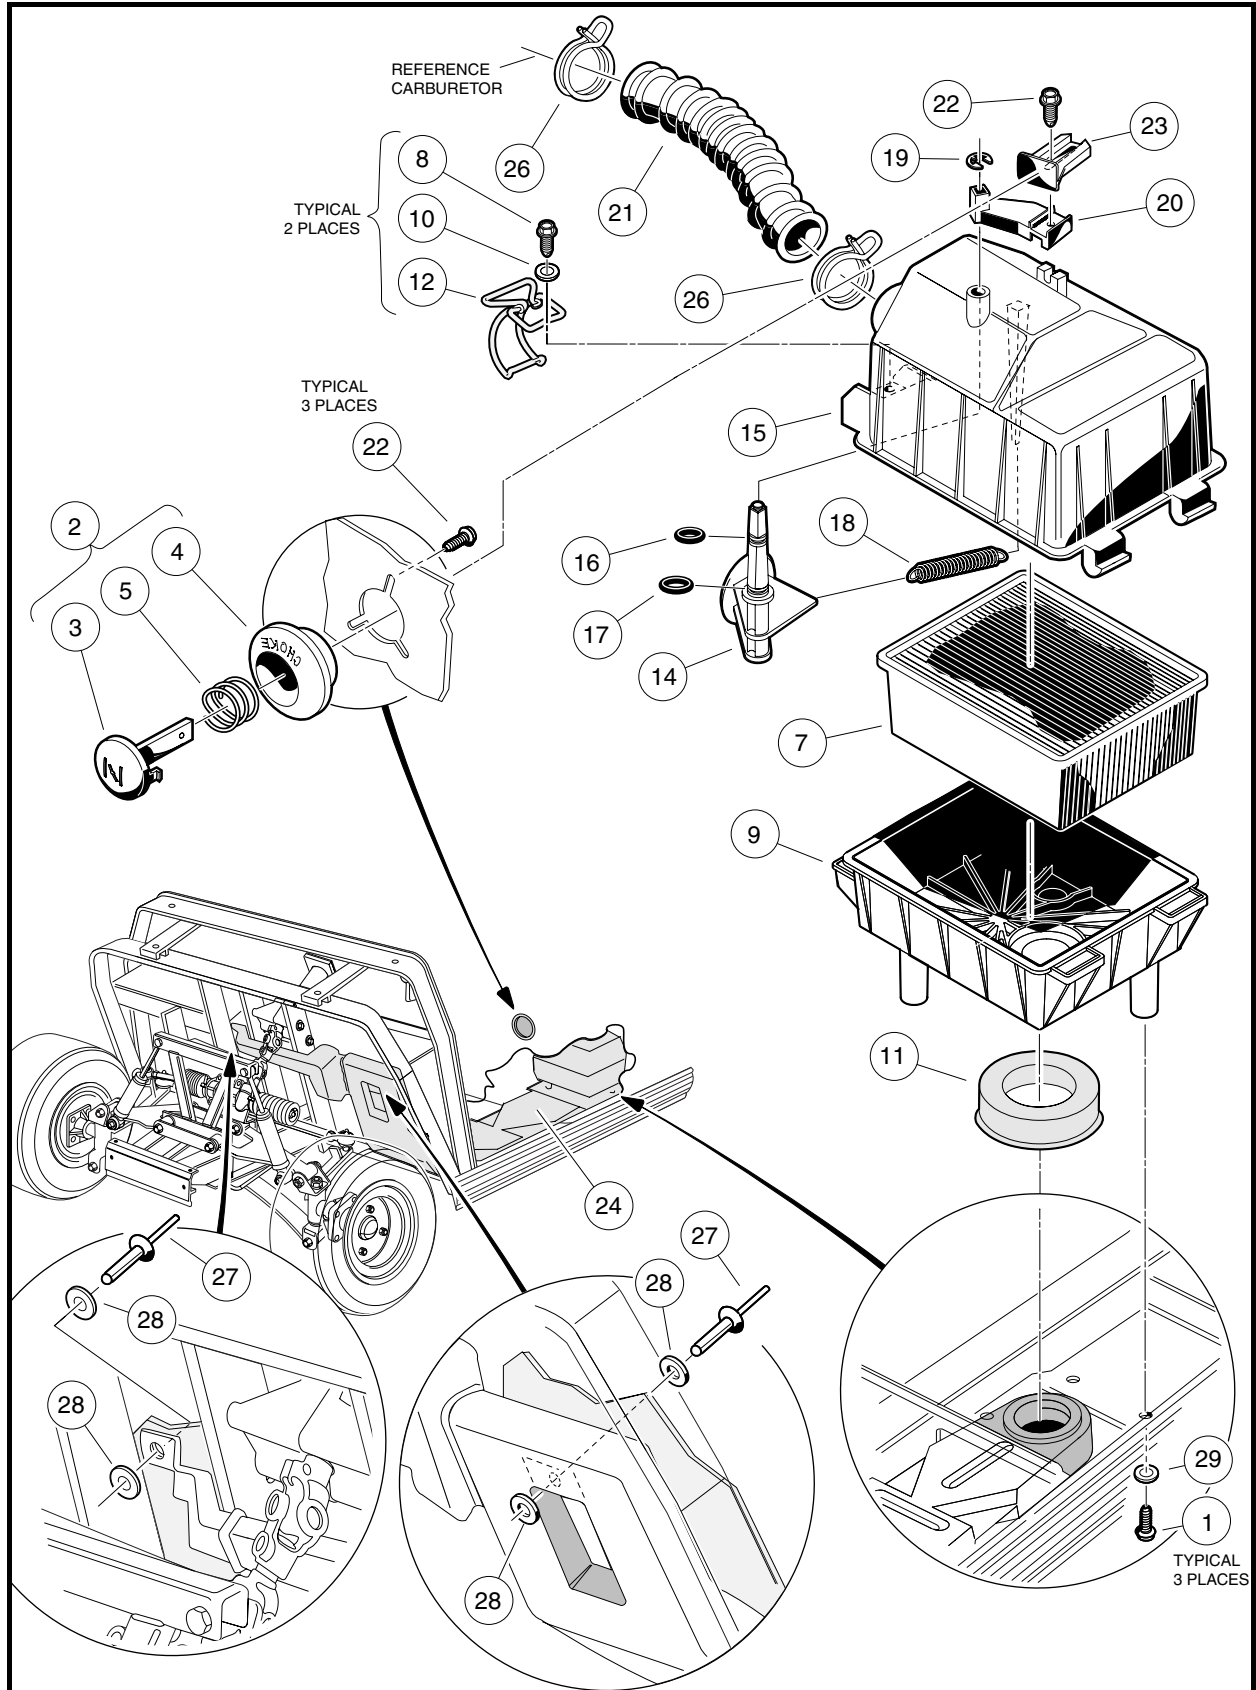

Figure 14-9 Air Intake and Choke Assemblies
1. Remove the mounting screws (22) from the back side of the choke. Remove the choke assembly from the vehicle body (**Figure 14-9, Page 14-14**).
1. Position the choke assembly (2) on the vehicle body. Install the mounting screws (22) from inside the vehicle body and tighten to 18 in-lb (2.0 N·m) (**Figure 14-9, Page 14-14**).
2. Check for proper operation. If the choke button does not adequately engage the choke lever (20), loosen the screw (30) and adjust the choke bracket (23) on the choke lever (20). Move the bracket toward the choke button to increase choke engagement and away from the choke button to reduce choke engagement.
3. Remove the air intake box from the vehicle by removing intake hose (21) and three screws (1) and washers (29) that mount the intake box to the vehicle (**Figure 14-9, Page 14-14**).
1. Check to be sure the intake seal (11) is seated correctly (**Figure 14-9, Page 14-14**). The seal fits tightly onto the bottom side of the air box. If seal is not in place, moisture will enter the air intake system.
2. Place the air box assembly into vehicle and install three flat washers (29) and screws (1) from underside of air box mounting plate into air box (**Figure 14-9, Page 14-14**). Tighten to 33 in-lb (3.7 N·m).
4. Drill out the two pop rivets (27) securing the intake duct to the floorboard (**Figure 14-9, Page 14-14**).
5. Remove three screws (1) and flat washers (29) from the bottom of the air box assembly.
2. Secure the front of the duct to the underside of the floorboard with two pop rivets (27) and flat washers (28) (**Figure 14-9, Page 14-14**).
1. Lift two latches (12) on the side of the air box (**Figure 14-9, Page 14-14**).
2. Remove the hose clamp (26) from the air hose (21) and remove hose from the air box assembly.
3. Standing on driver side of vehicle, grasp air hose mounting inlet and open box fully. Remove filter element (7).
6. Fasten wire latches (12). Make sure latches securely engage the bottom half of the box. **See following CAUTION.**
7. Install hose (21) and hose clamp (26) (**Figure 14-9, Page 14-14**). If equipped with screw clamp, tighten to 17 in-lb (1.9 N·m). Make sure clamp ends are located in the 12:00 o'clock position.